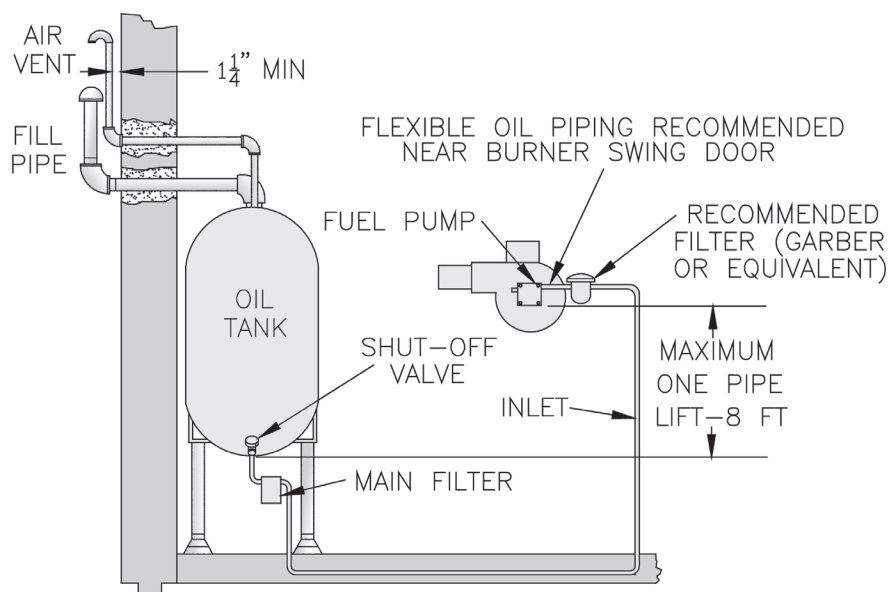

Figure 22: Single Pipe Oil Line
2. The single-stage fuel unit may be installed single-pipe with gravity feed or lift. Maximum allowable lift is 8 feet. See Figure 22.